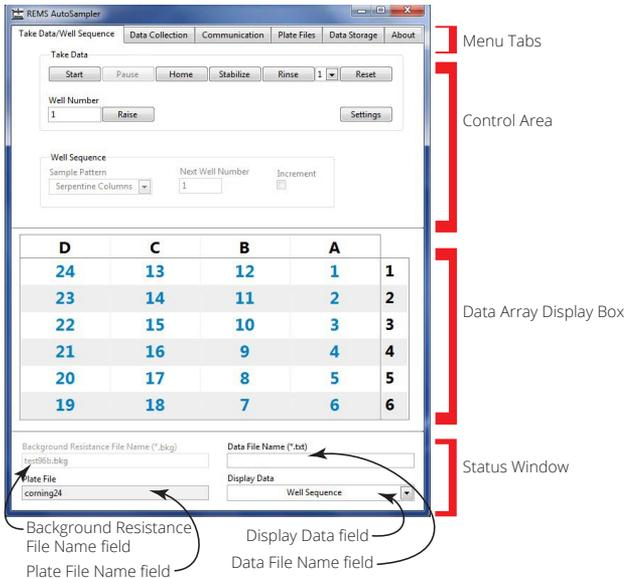

Fig. 16 — REMS System software interface
**REMS** data is shown in the *Data Array Display Box* (Fig. 16). It displays the data selected by the *Display Data* drop down list box in the bottom right corner of the window. In the example, the well sequence is displayed. Changing the *Display Data* selection does not affect how data is taken or where it is stored. Options include: Well sequence, Well background, Total resistance and Tissue resistance.